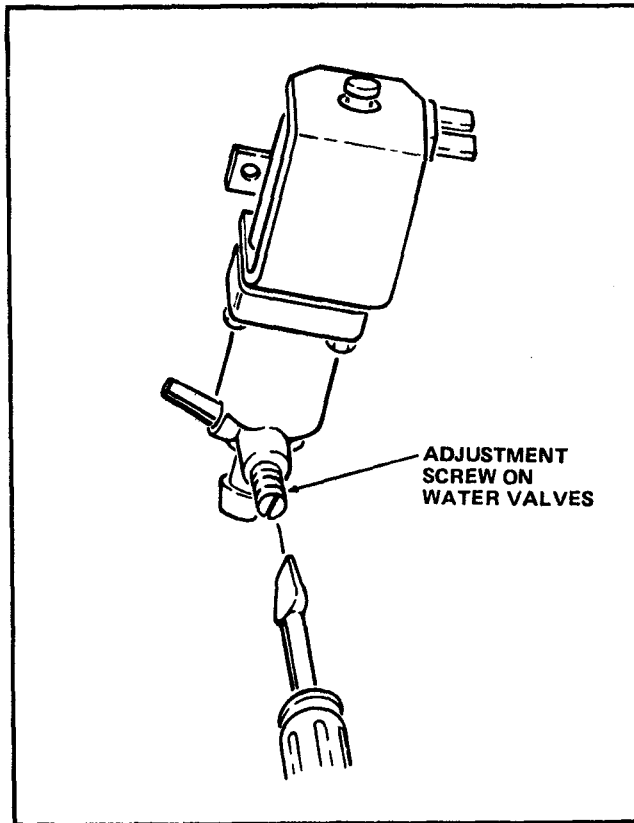

Figure 3-14. Water Valve Adjustment Screw
2. To INCREASE the water flow in a Water Valve turn the adjustment screw on the valve COUNTERCLOCKWISE one turn. See Figure 3-14.
3. To DECREASE the water flow in a Water Valve turn the adjustment screw on the valve CLOCKWISE one turn. See Figure 3-14.